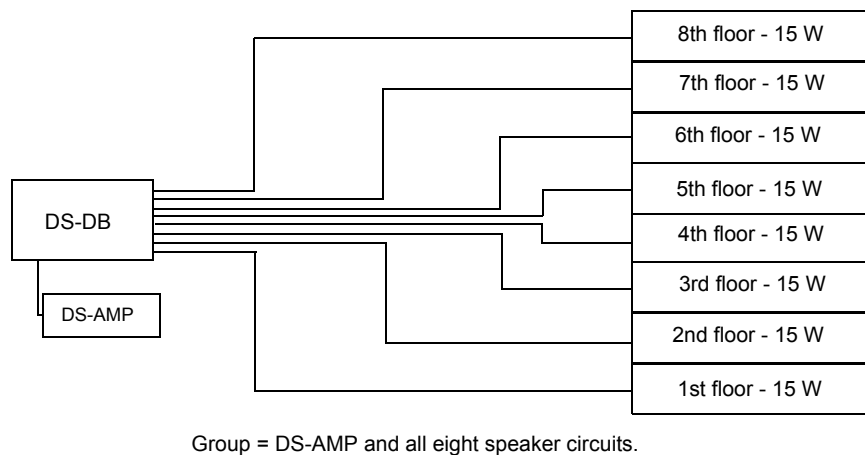

Figure D.4 DS-DB - One Amplifier per Group, All Speaker Circuits
4. Figure D.4 shows a DS-DB with one group. The DS-AMP amplifier is in a group with all eight of the DS-DB's speaker circuits. The load on all eight circuits does not exceed the DS-AMP's capacity of 120 watts.